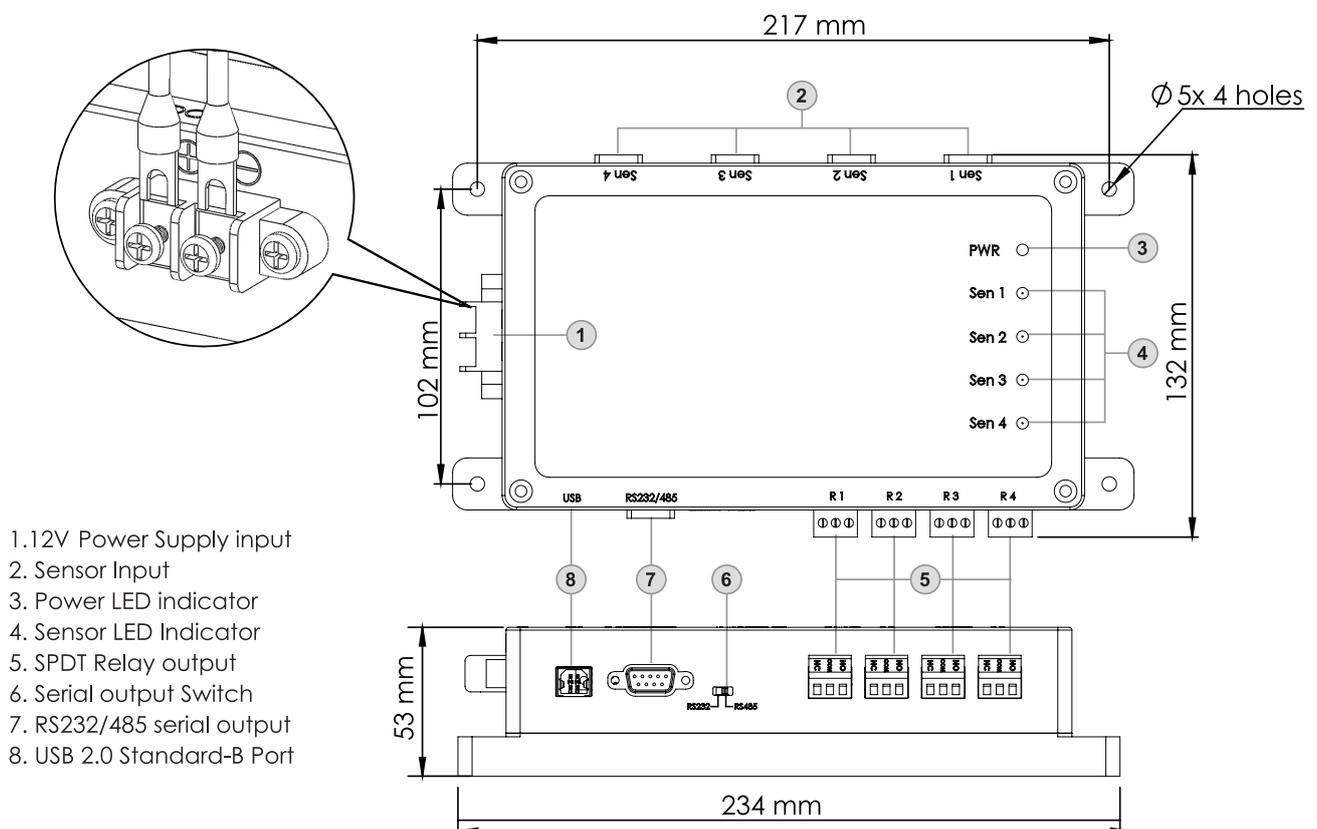

Figure 12. Overview of the Control Box
2. Connect the sensor cord to the sensor input on the DigiPas DWL5x00XY control box as shown in Figure 12.
Connect the USB cable from USB2.0 Standard-B Port on the control box to PC as shown in Figure 12(a).
- c. Connect cable from RS232/485 serial output on the control box to ES-U-3001-M converter as in Figure 12(b).
- c. Connect cable from RS232/485 serial output on the control box to ES-U-3001-M converter as in Figure 12(c).